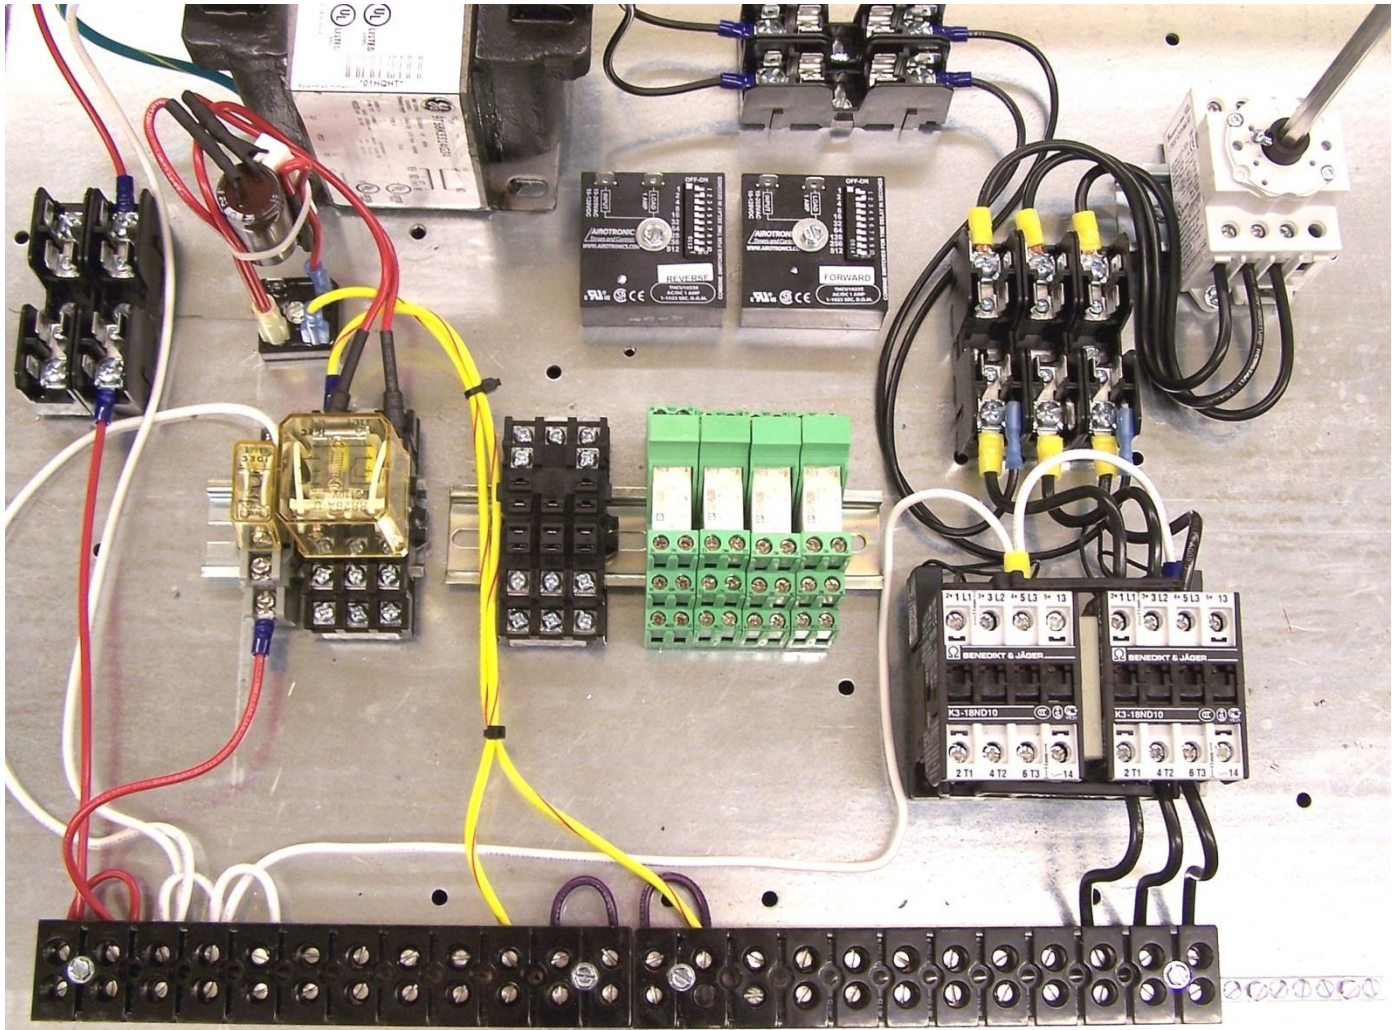

Figure3
7. Place the supplied 6" din rail to the right of the safety relay (Figure 3). Mark where the two mounting holes are to be and drill the holes.
8. Mount the two delay on make timers as shown in Figure 3. Forward is on the right and Reverse is on the left. Use the supplied drill bit to make the holes.